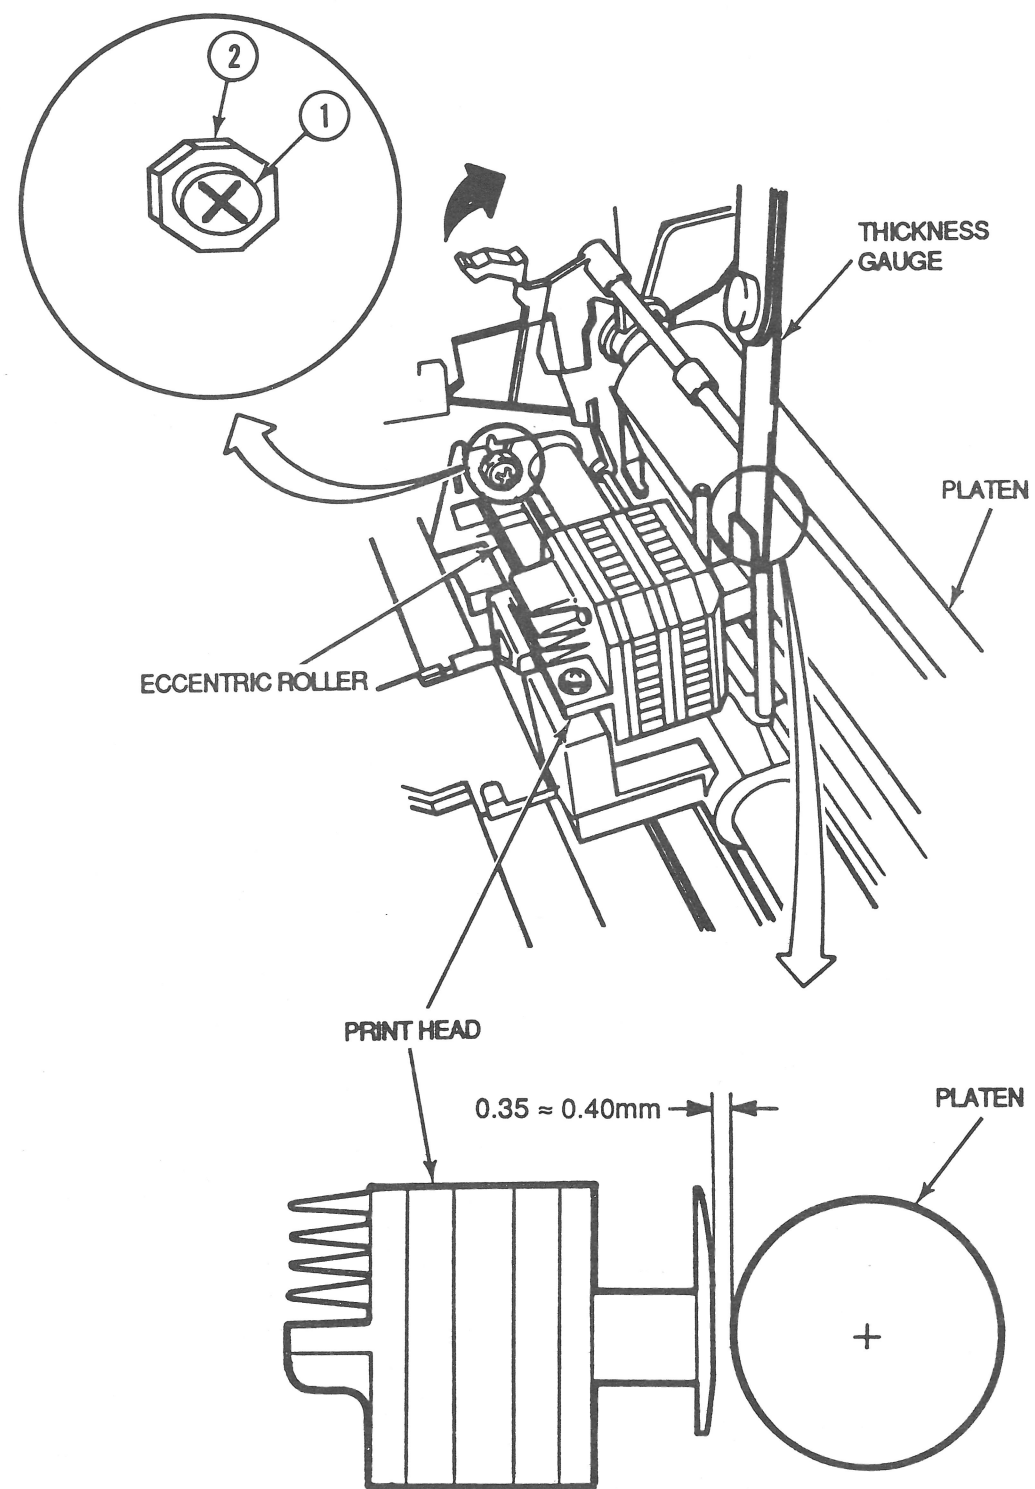

FIGURE 4
10. Tighten the eccentric roller set screws (Figure 4, #1) on both the left and right sides of the printer while holding the hexagon nut (Figure 4, #2) with the wrench.